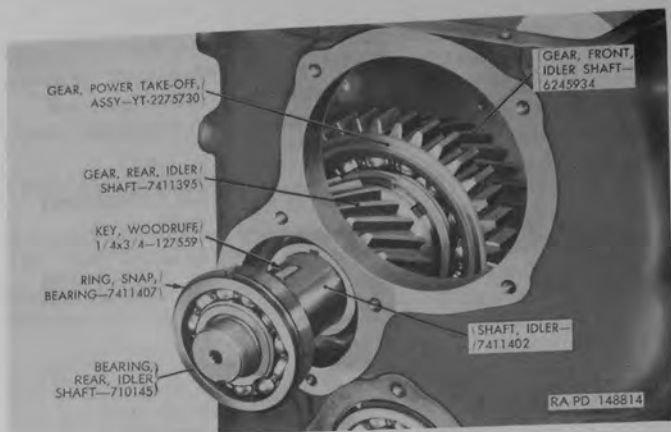

Figure 81. Installing idler shaft and gears.
b. Insert front end of idler shaft assembly through opening at rear of transfer case and through idler shaft rear gear (V), idler shaft clutch gear (BC), and idler shaft front gear (BA). Aline $\frac{1}{4} \times \frac{3}{4}$ Woodruff key (Z) in idler shaft with keyway in rear gear as idler shaft (fig. 81) is moved forward. Use lead hammer to drive on rear end of idler shaft to force idler shaft into place with bearing snap ring (EE) against rear face of transfer case.